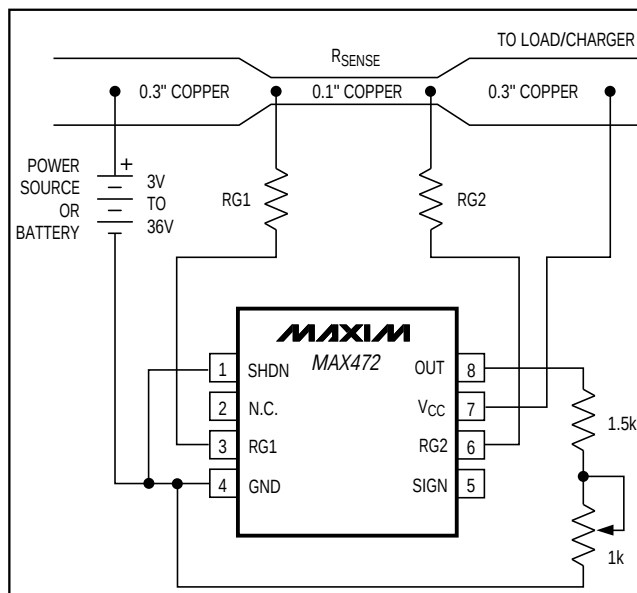

Figure 6. MAX472 Connections Showing Use of PC Board Trace
- Cost:** If the cost of RSENSE becomes an issue, you may want to use an alternative solution, as shown in Figure 6. This solution uses the PC board traces to create a sense resistor. Because of the inaccuracies of the copper "resistor," you will need to adjust the full-scale current value with a potentiometer. Also, the resistance temperature coefficient of copper is fairly high (approximately 0.4%/°C), so systems that experience a wide temperature variance should take this into account.
In Figure 6, assume the load current to be measured is 10A and that you have determined a 0.3 inch wide, 2 ounce copper to be appropriate. The resistivity of 0.1 inch wide, 2 ounce copper is 30mΩ/ft (see Note 4). For 10A you may want  $R_{SENSE} = 5\text{m}\Omega$  for a 50mV drop at full scale. This resistor will require about 2 inches of 0.1 inch wide copper trace.